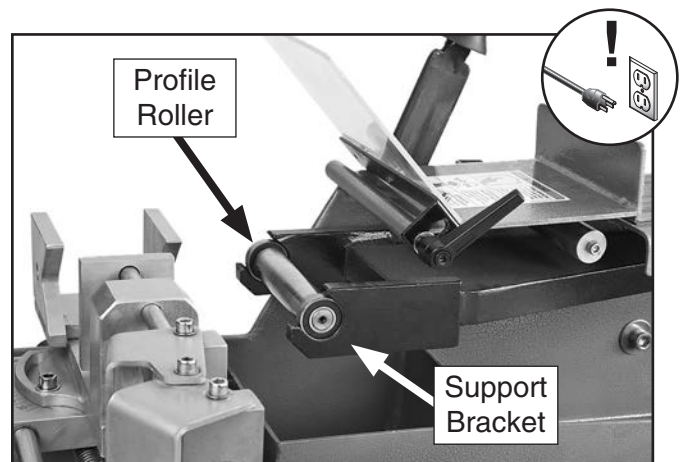

Figure 24. 1" profile roller installed.
2. With abrasive belt removed, remove profile roller from support bracket (see **Figure 24**).